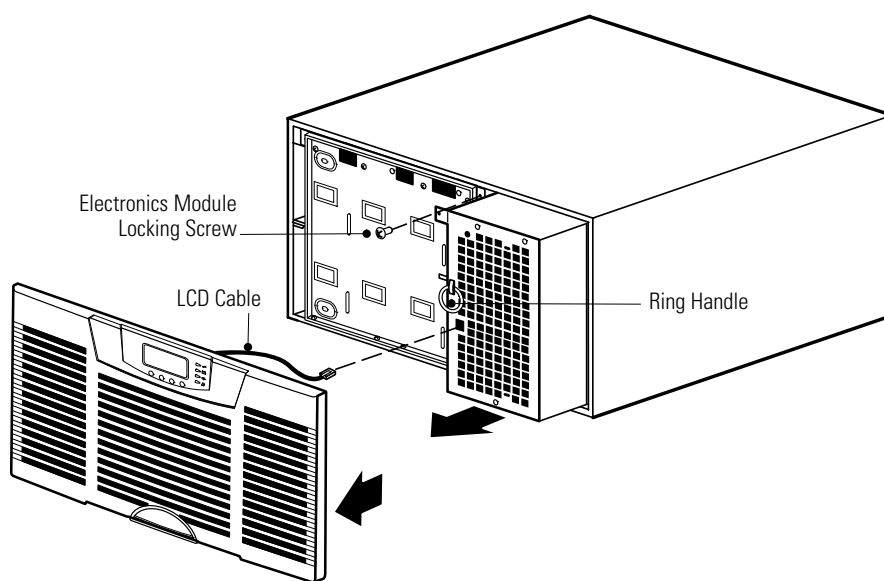

Figure 86. Removing the UPS Front Cover and Electronics Module
3. Remove the UPS front cover and the electronics module and set them aside (see Figure 86):
9. Remove the UPS front cover and the electronics module (see Figure 86 on page 125):